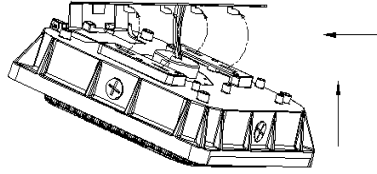

FIG.4
3. Slide the fixture towards to the hook, fasten the screw A to block the fixture. FIG.4,5